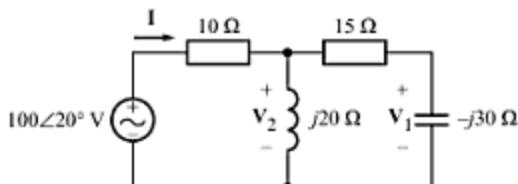

Fig. C-55
- C-84. In the circuit shown in Fig. C-55, (a) find the current  $\mathbf{I}$ , and (b) use voltage division twice to find  $V_1$ . [Ans. (a)  $2.32\angle-28.6^\circ \text{ A}$ ; (b)  $77.3\angle 5^\circ \text{ V}$ ]